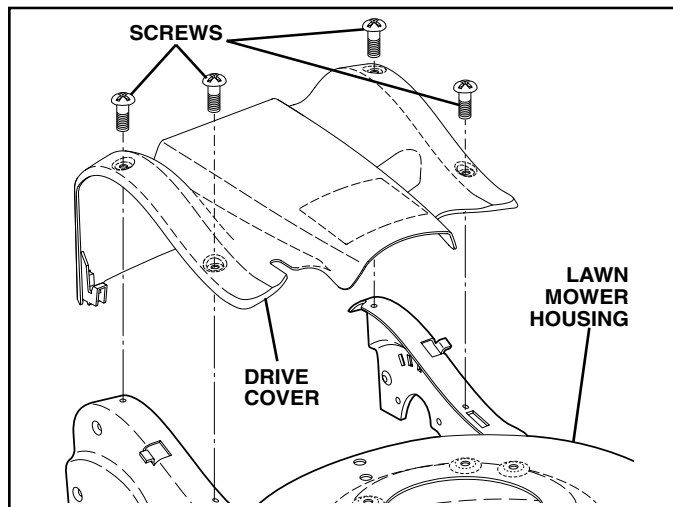

FIG. 16
TO REMOVE DRIVE BELT (See Figs. 16–18)
2. Remove screws retaining drive cover and remove drive cover from lawn mower housing (See Fig. 16).
TO REPLACE DRIVE BELT (See Figs. 16–19)
11. Reattach drive cover with screws previously removed (See Fig. 16).